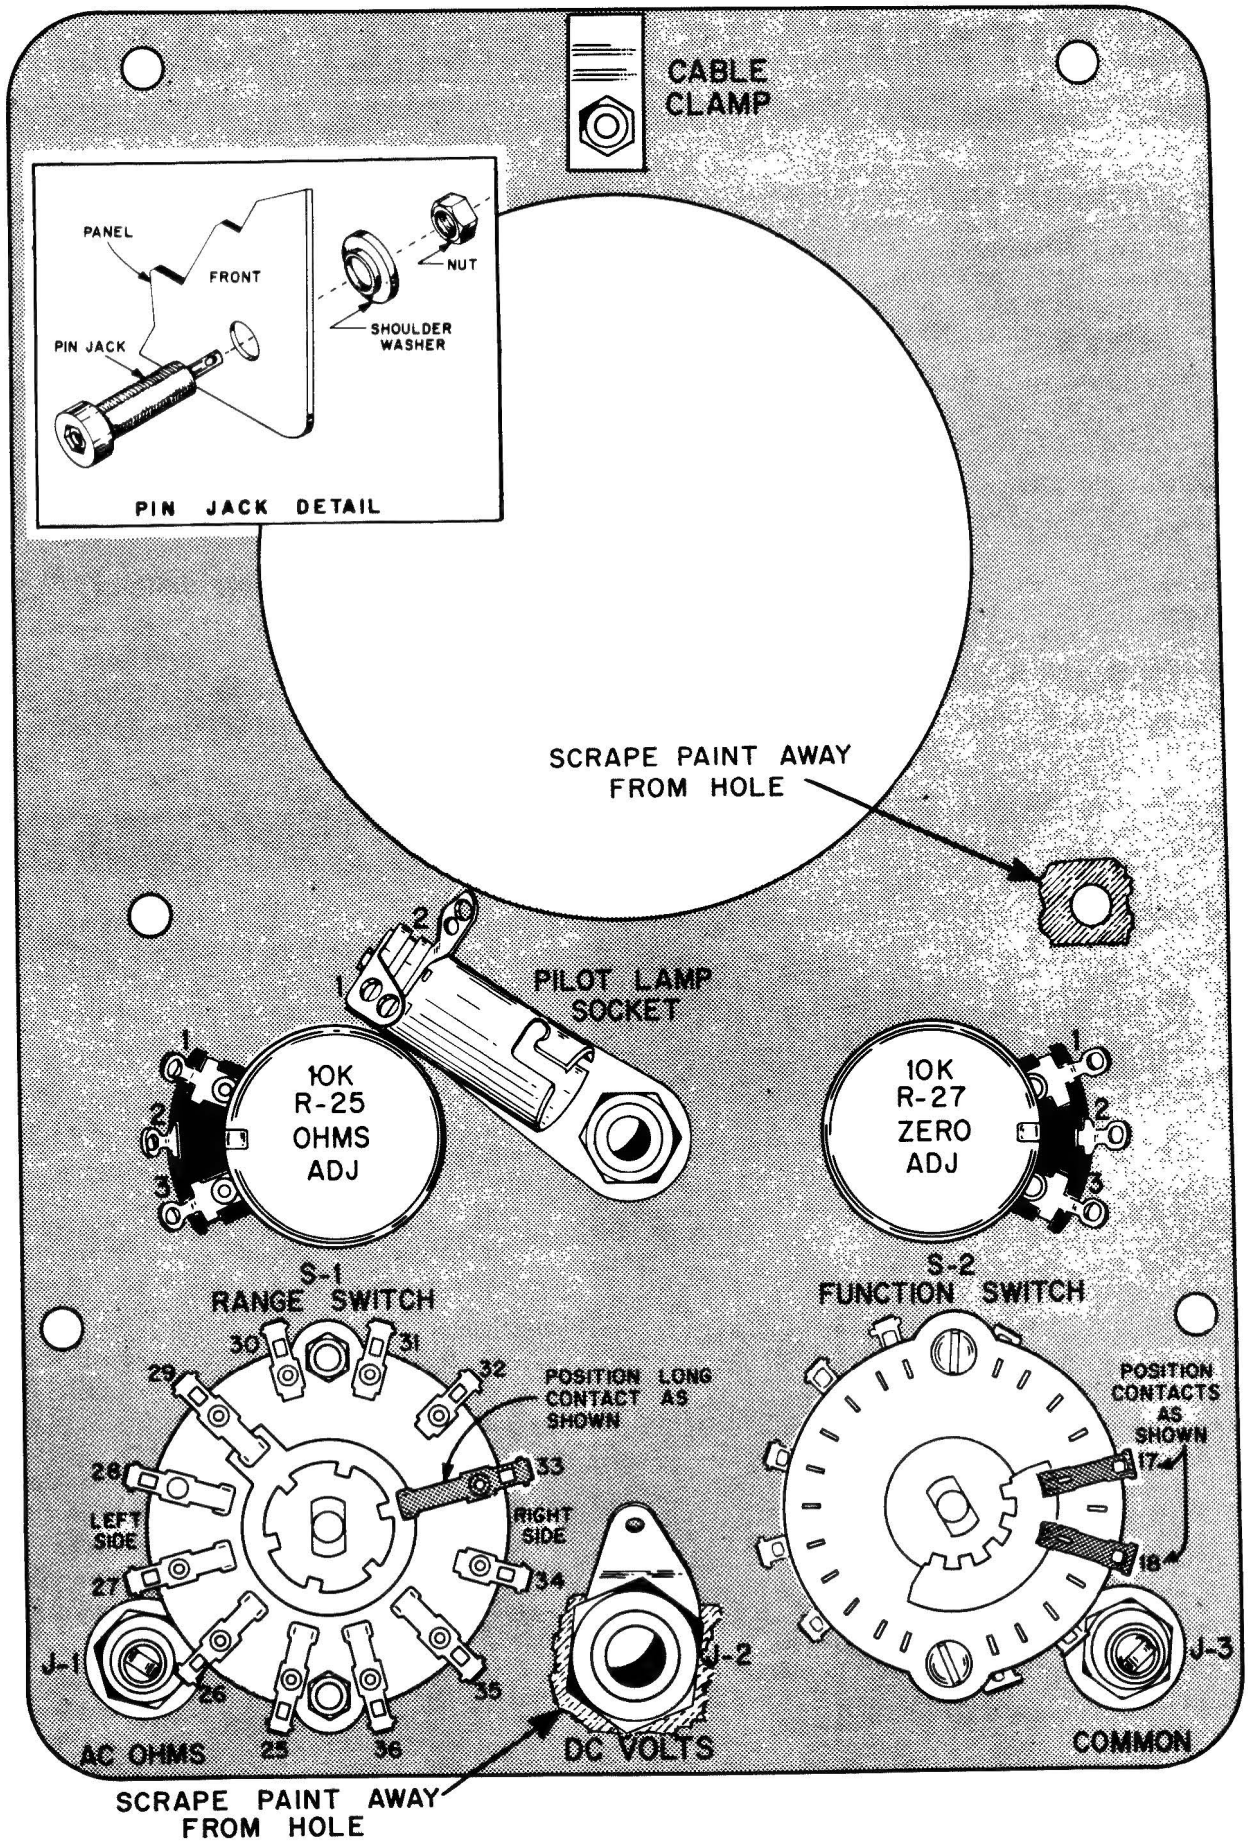

FIGURE 1. MOUNTING THE PARTS ON THE PANEL
SEE FIGURES 1 AND 2
- () Mount the pilot light socket between R-25 and R-27. The bracket must be positioned as shown in Figure 1, but must not touch R-25.
- () Mount J-1, the red pin jack, in the lower left corner of the panel. Use a shouldered fiber washer on the inside of the panel to insulate the jack from the panel. Now, tighten a nut against the washer. Refer to the pin jack detail in the upper left corner of Figure 1.
- () Mount S-1, the long triple wafer RANGE switch in the hole in the lower left corner of the panel. The long contact on the end wafer must be positioned as shown in Figure 1. The blank space on the wafer near the shaft end must be toward J-1. Use a large nut and a lockwasher on the inside of the panel. Fasten it securely with another large nut. Place a large knob on the shaft. Be sure the line on the knob lines up exactly with the printed dots on the panel. If not, rotate S-1 so the scale on the panel and the line on the knob correspond.